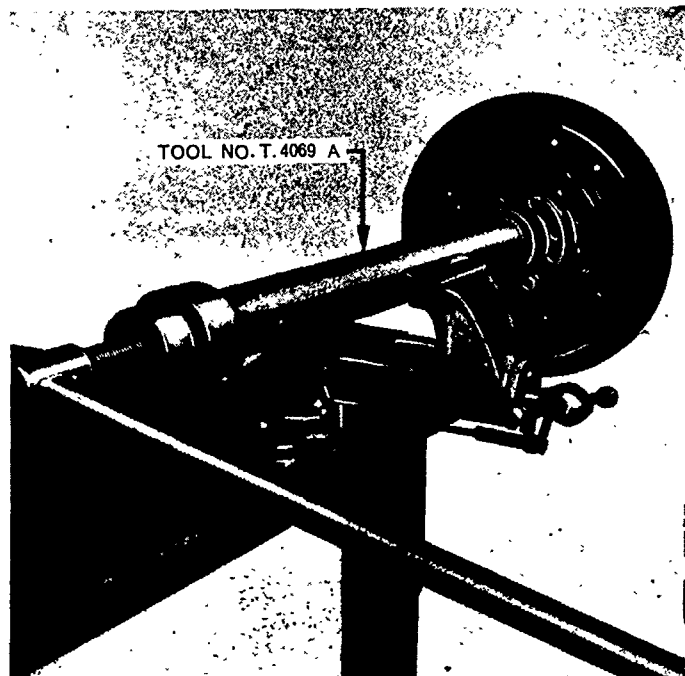

Figure 10
4. Remove the bearing retainer, brake assembly and bearing from the axle shaft using Tool No. T4069-A or NCA 4235, Figures 10 & 11. The bearing spacer may then be removed from the axle shaft and the bearing cone from the retainer.